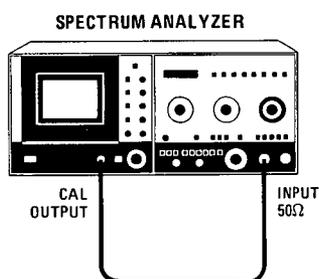

Figure 5-60. Absolute Amplitude Calibration Test Setup
- b. Reconnect power cord, set LINE switch ON, connect equipment as shown in Figure 5-60, and set 8565A controls as follows: